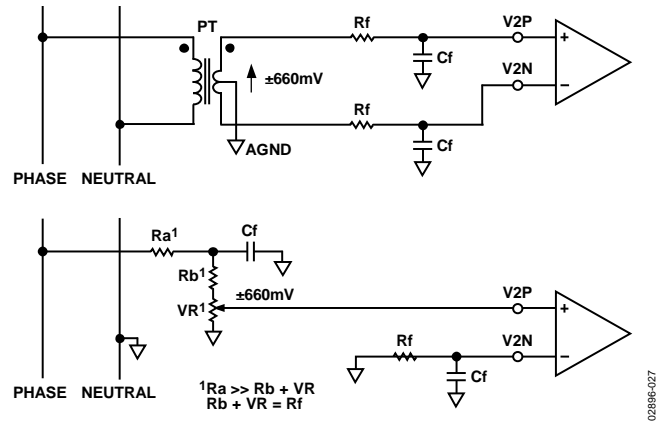

Figure 27. Typical Connections for Channel 2
Figure 27 shows two typical connections for Channel 2. The first option uses a potential transformer (PT) to provide complete isolation from the power line. In the second option, the ADE7755 is biased around the neutral wire, and a resistor divider provides a voltage signal that is proportional to the line voltage. Adjusting the ratio of R_a , R_b , and V_R is also a convenient way of carrying out a gain calibration on the meter.